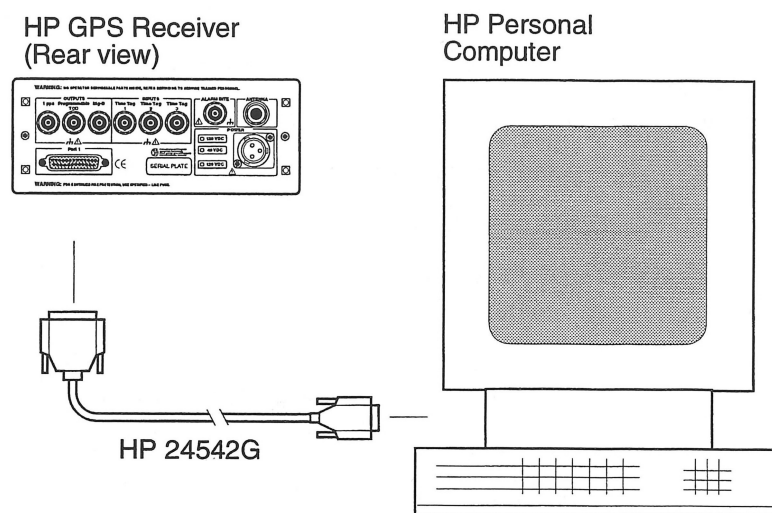

Figure 1-4. Connecting the HP GPS Receiver to a Computer
- 2 Connect the HP GPS Receiver to a personal computer (PC) via the rear-panel **PORT 1** RS-232 port using an HP 24542G interface cable as shown in Figure 1-4.